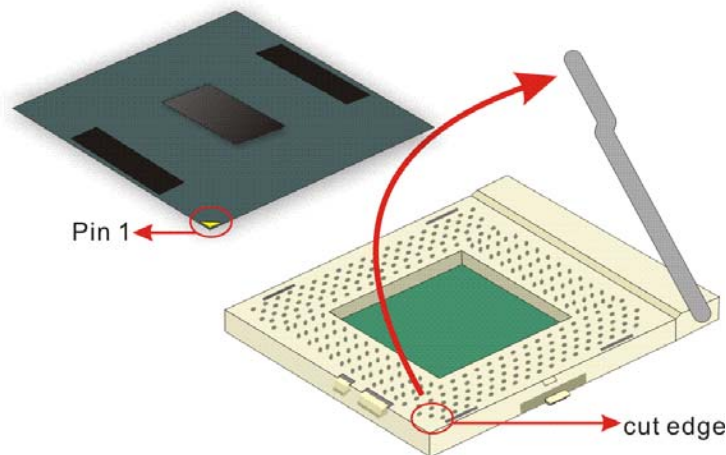

Figure 4-1: Install the CPU
- Step 2:** Open the CPU socket lever. Disengage the load lever by pressing the lever down and slightly outward to clear the retention tab. Rotate the load lever to a fully open position. (See Figure 4-1)
- Step 3:** Orientate the CPU properly. Make sure the IHS (Integrated Heat Sink) side is facing upward. (See Figure 4-1)
- Step 4:** Correctly position the CPU. Match the Pin 1 mark with the cut edge on the CPU socket. (See Figure 4-1)